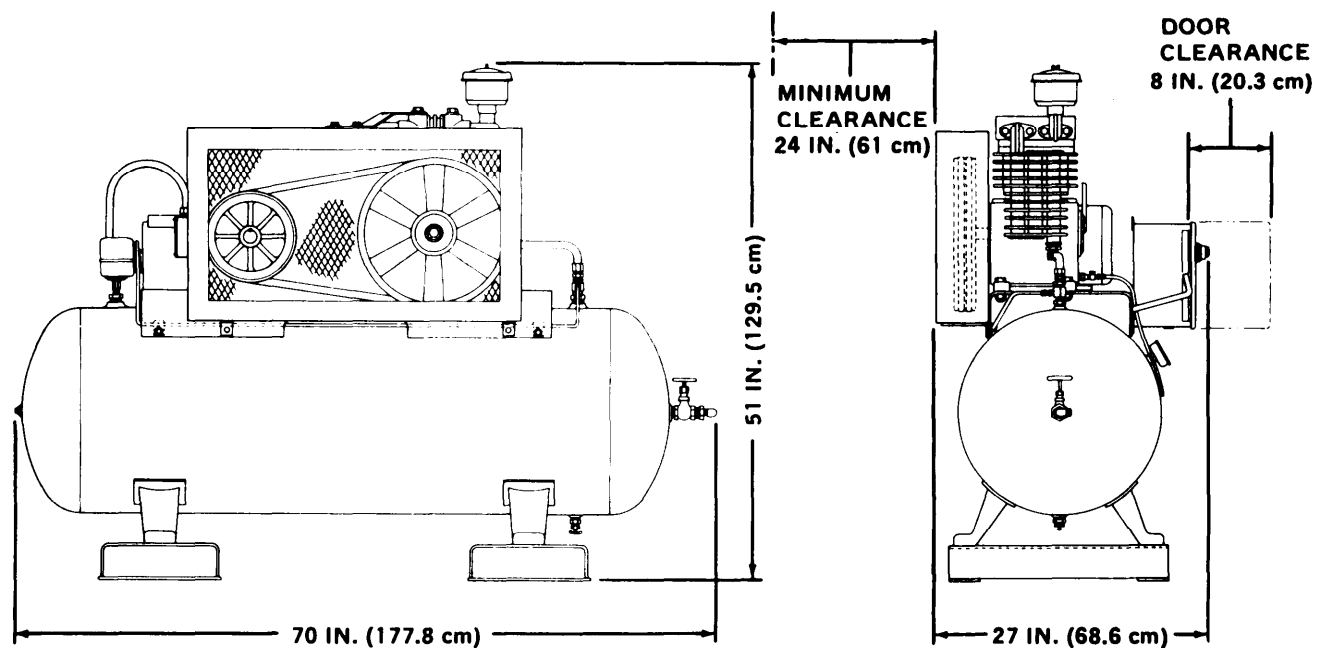

Figure 2-2. Unit floor mounting diagram.
(1) Refer to Components of End Items List (Appendix C) and check to see if you have received all required items.
(2) Refer to Additional Authorization List (Appendix D) and check to see if you have received additional items authorized for support of the air compressor.
(3) Check for and tighten any loose mounting screws and nuts. Visually check for missing parts and for damage that may have occurred during shipment.
(4) Position unit where there is adequate ventilation and air circulation for cooling. Installation must be at least 2 feet (0.6 meters) from wall to belt guard.
(5) Secure unit to floor, when required. Refer to figure 2-2 for mounting diagram.